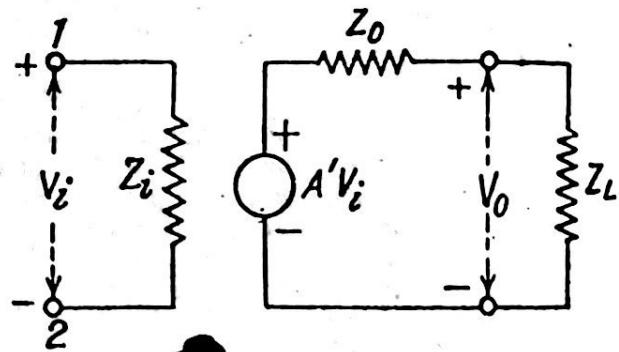

Fig. 1 (b) Low frequency equivalent circuit of OP-AMP. A' —Open circuit voltage gain.
Ideal Operational Amplifier : The ideal operational amplifier is shown in fig. 1(a) and its low frequency equivalent in fig. 1(b). A signal appearing at the negative terminal (1) is inverted at the output and is called *inverting terminal* while a signal at the positive terminal (2) appears at the output without any change in sign and is called *non-inverting terminal*. In general, the output voltage is directly proportional to the input voltage which is difference of V_1 and V_2 i.e. $V_i = V_2 - V_1$. $(-A)$ is the voltage gain of the amplifier.